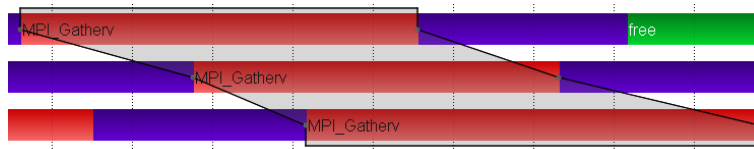

Figure 4.3: Selected MPI Collective in Master Timeline
**Communication Events** In addition to the display of categorized function invocations, Vampir's *Master-* and *Process Timeline* also provide information about communication events. Messages exchanged between two different processes are depicted as black lines. In timeline charts, the progress in time is reproduced from left to right. The leftmost (starting) point of a message line and its underlying process bar therefore identify the sender of the message, whereas the rightmost position of the same line represents the receiver of the message. The corresponding function calls usually reflect a pair of MPI communication directives like `MPI_Send()` and `MPI_Recv()`. Since the *Process Timeline* reveals information of one process only, short black arrows are used to indicate outgoing communication. Collective communication like `MPI_Gatherv()` is also displayed in the *Master Timeline* as shown in Figure 4.3.